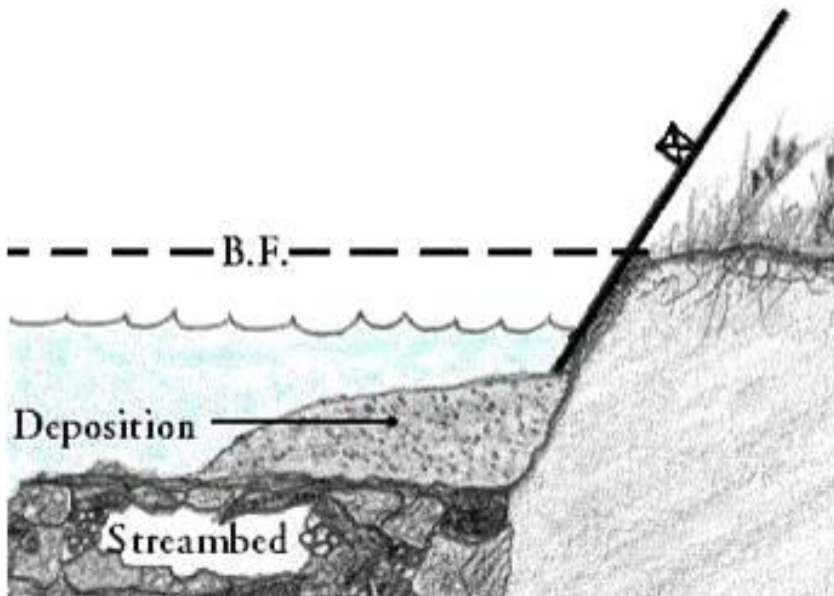

Figure 35: Begin measuring the angle from the point where the deposition and bank meet.
- On un-vegetated depositional features such as point bars, start the measurement at the point where the top of the depositional feature and streambank meet (Figure 35).